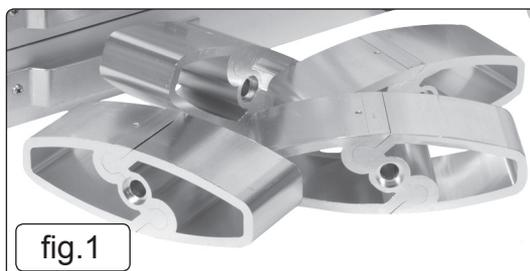

fig.1
- 3.1. The MS070 includes adaptors (fig 1).